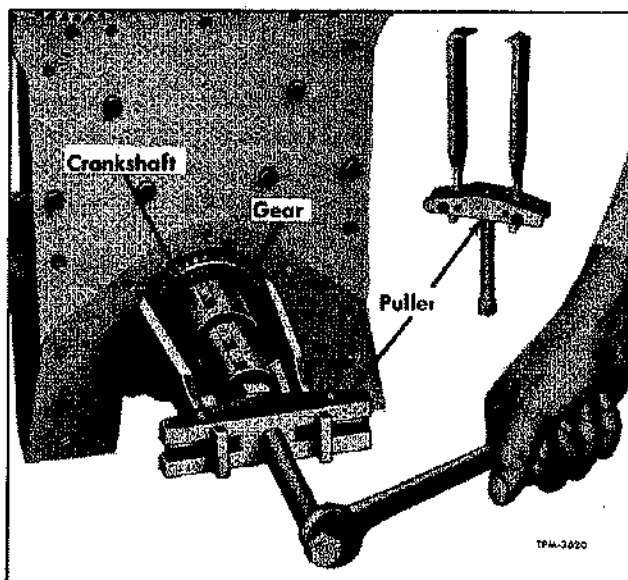

Figure 11—Removing Oil Pump Drive Gear from Crankshaft
4. Slide oil slinger and spacer or cone off crankshaft; then with puller pull drive gear off crankshaft (fig. 11).